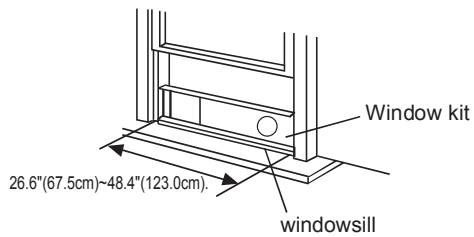

Fig. 9
2. Attach the window slider kit to the windowsill. Adjust the length of the window slider kit according to the width of window, shorten the adjustable window kit if the width of window is less than 26.6 inches. Open the window sash and place the window slider kit on the windowsill. Fig.9.